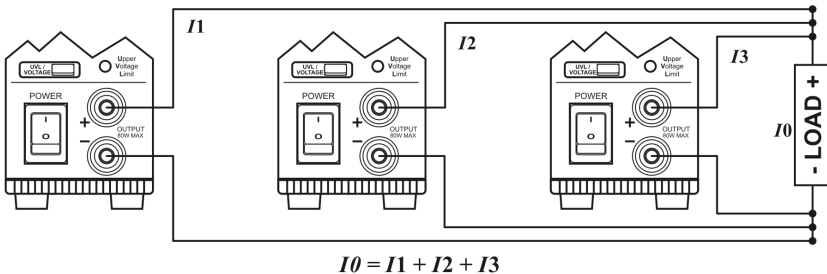

Fig. 8.3
You can either use the Output Terminals at the front (2) or at the back (20) to connect to the load as shown in Fig 8.3 depending on your application condition and requirement.